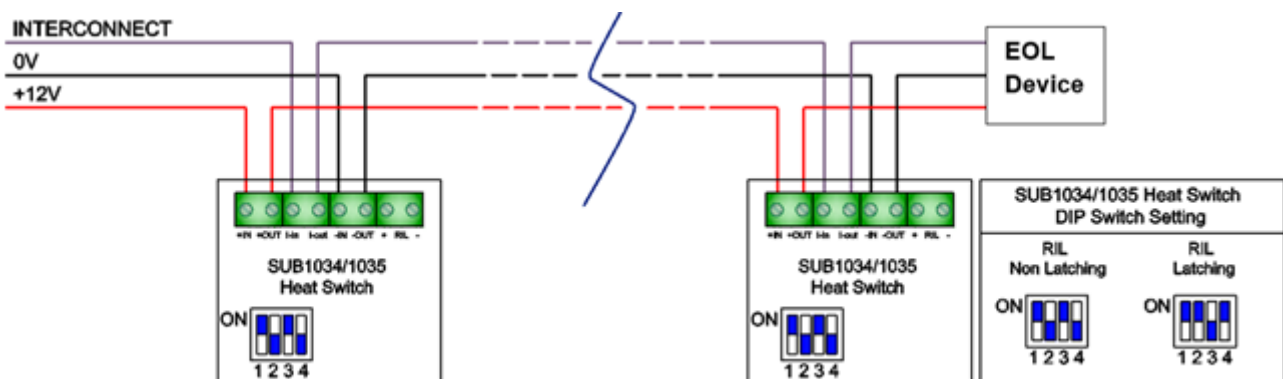

Figure 1 Connection of heat detectors to RFP V2 series or RFS1 V2
2. Connect zone wiring +12V, 0V and Interconnect to the first set of terminals on SUB1034 / SUB1035 as shown in the drawing in Figure 1 below.